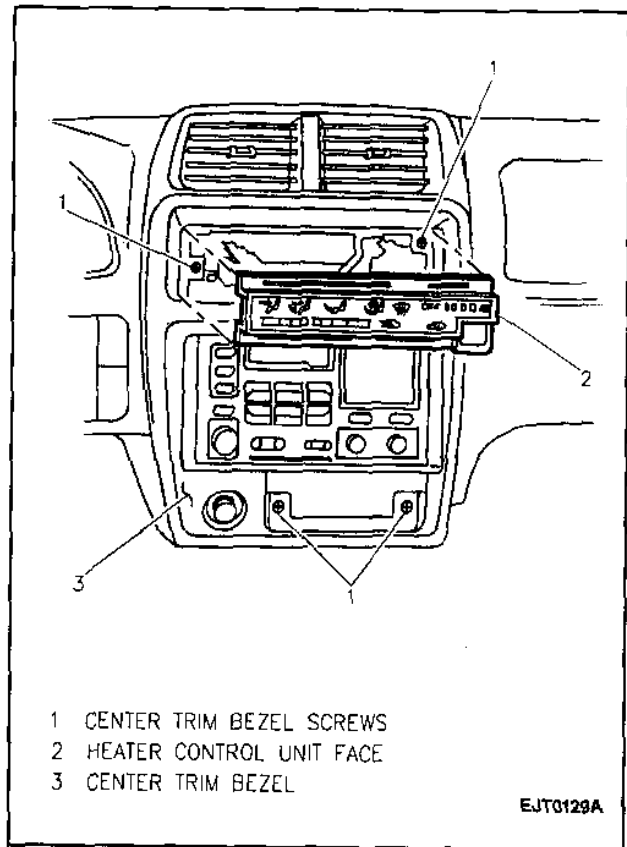

Figure 17—Heater Control Unit Face Plate Removal
Figures 17 and 18
3. Pull heater control unit face plate from instrument panel (Figure 17).